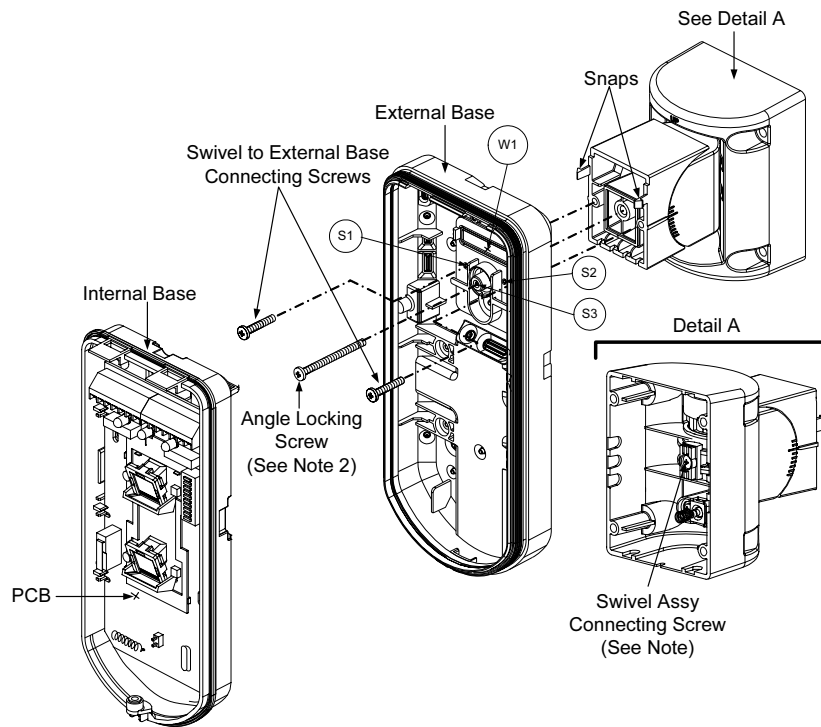

Figure 7
4. Secure external base to swivel with two screws fastened through knockouts S1 and S2 (Figure 7).
5. Insert the supplied angle locking screw from the external base through the angle locking screw knockout S3 on the external base to the standard swivel (Figure 7).
When marks on the two movable parts are aligned (Figure 7), the Standard Swivel is in 0° vertical /horizontal position. Each click from this position represents shifting of 5° in vertical / horizontal position.